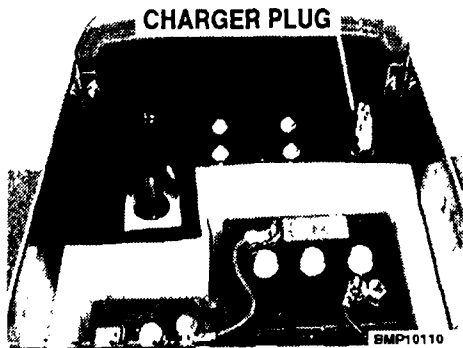

Figure 11
3. Connect the charger plug into the machine firmly. The machine's mating charger plug is mounted under the top lid toward the front of the machine (Figure 11).